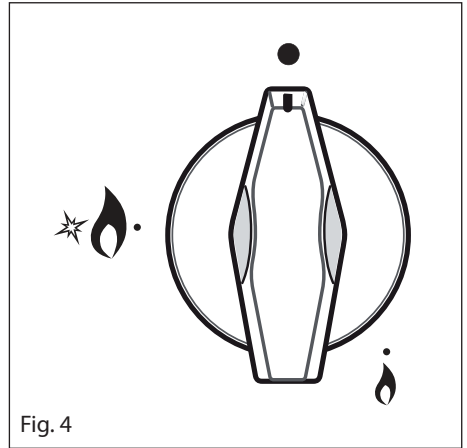

Fig. 4
Gas flow to the burners is adjusted by turning the knobs (illustrated in fig. 4) which control the safety valves.
1. Press in the corresponding knob and turn counter-clockwise (fig. 5) to the full flame position marked by the "⚡🔥" symbol (fig. 4); hold the knob in until the flame has been lit.